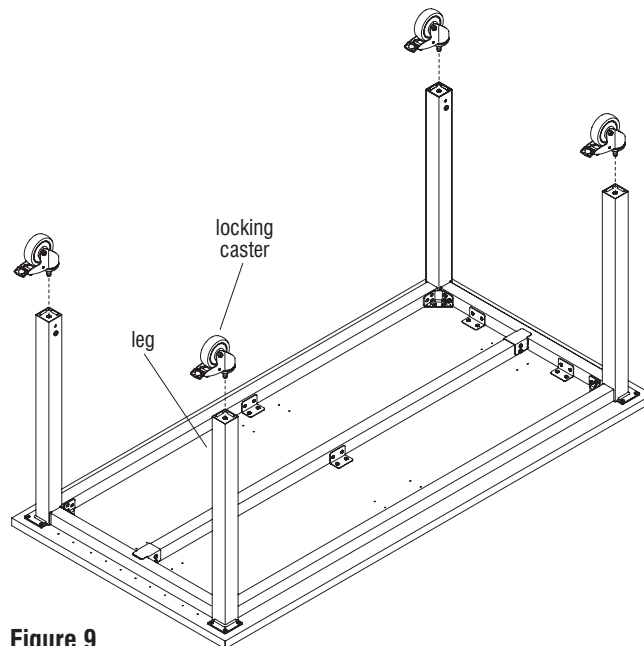

Figure 9
1. Thread the stem of each locking caster into the threaded hole at the bottom of each leg. Hand-tighten the stem of each caster to the bottom of the leg (Figure 9 & Detail N).